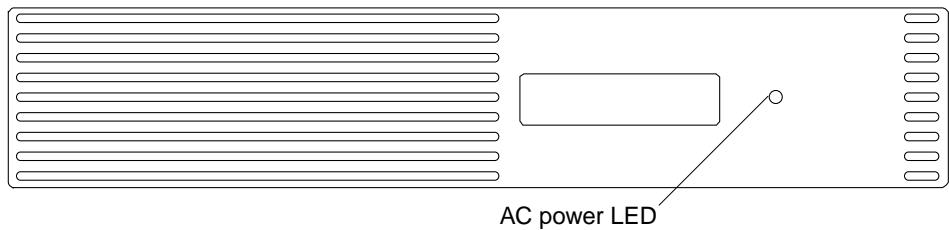
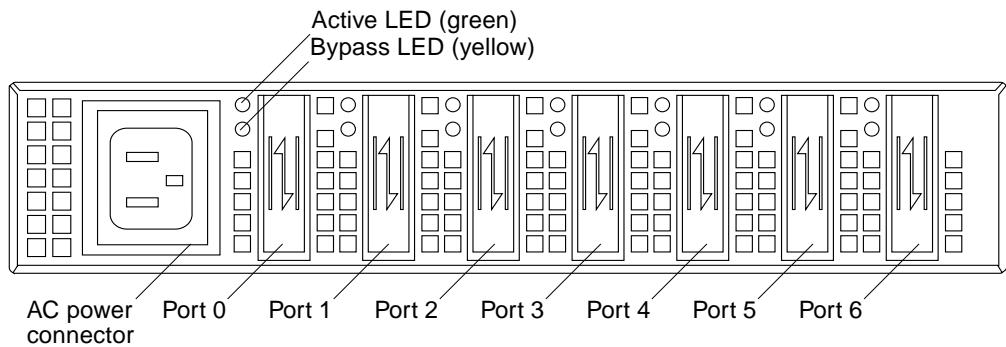

FIGURE 1-1 Front of Hub
FIGURE 1-2 Rear of Hub
The front and rear of the hub are shown in FIGURE 1-1 and FIGURE 1-2.
1. Connect the female end of the power cord to the power receptacle at the rear of the hub (FIGURE 1-1 on page 1-2).